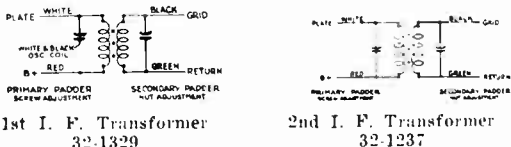

FIG. 1
The primary padder is adjusted by means of the screw slot, accessible through the hole in the top of the shield can. The secondary padder is adjusted by means of the small hex nut, also accessible through the hole in the top of the shield. (See Figs. 1 and 2.)
The coil windings terminate in leads instead of terminals or lugs. The color scheme of the leads is given in Fig. 1.
Refer to Figure 1, which gives detailed dimensions for the location and drilling of the holes in the dash. Remove the paint from the dash for 3/4" from around the holes to insure good ground contact after drilling. All dimensions are shown from the engine side of the dash. After drilling the holes, bolt the two (2) mounting brackets to the inside of the dash, using both the flat and the lockwashers under the nuts. The left-hand bracket (over the steering column) is for the speaker unit; the right-hand bracket is for the Receiver.
The coil windings terminate in leads instead of terminals or lugs. The color scheme of the leads is given in Figure 1.